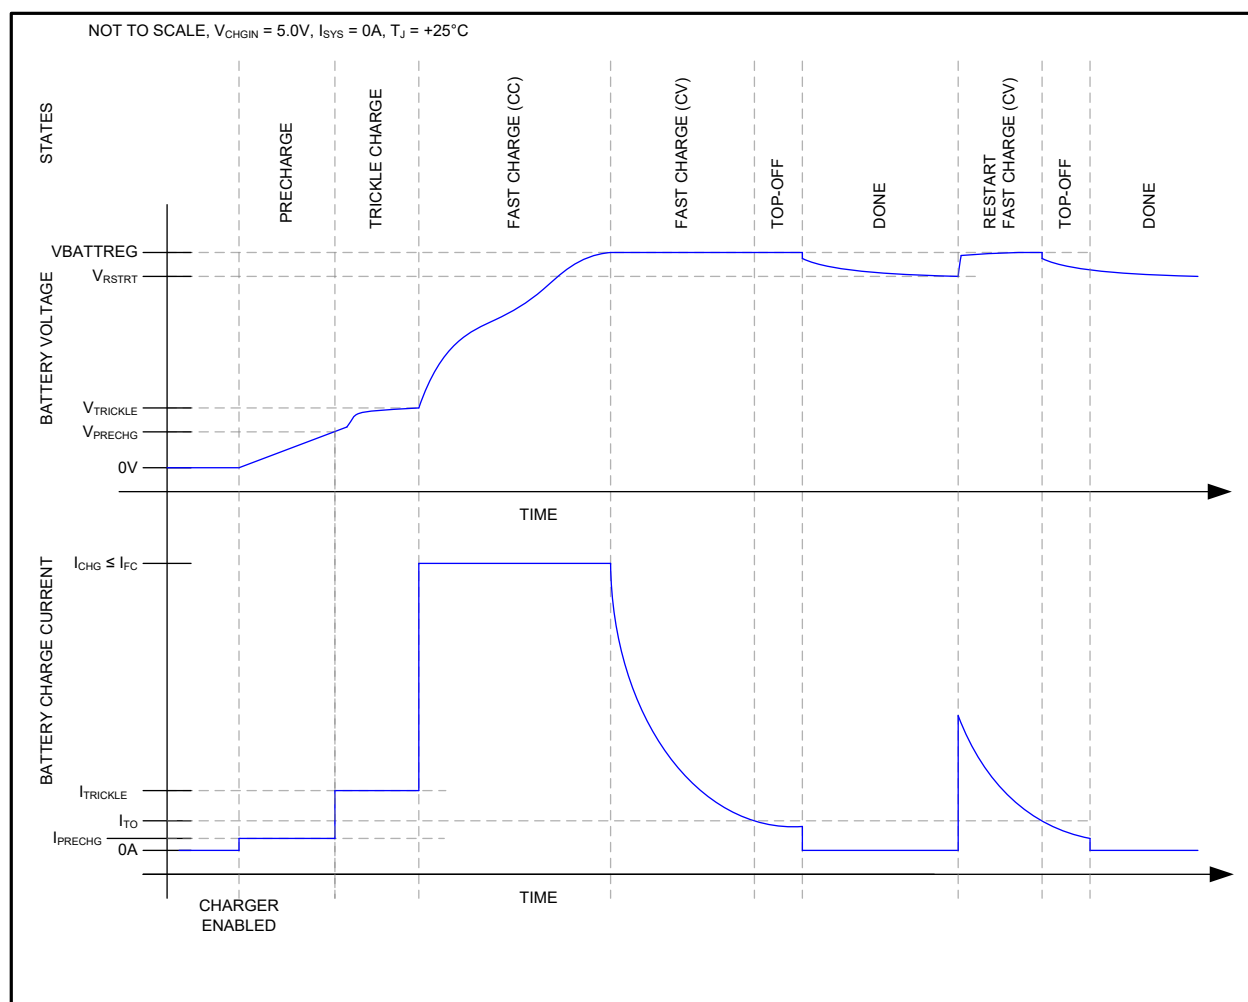
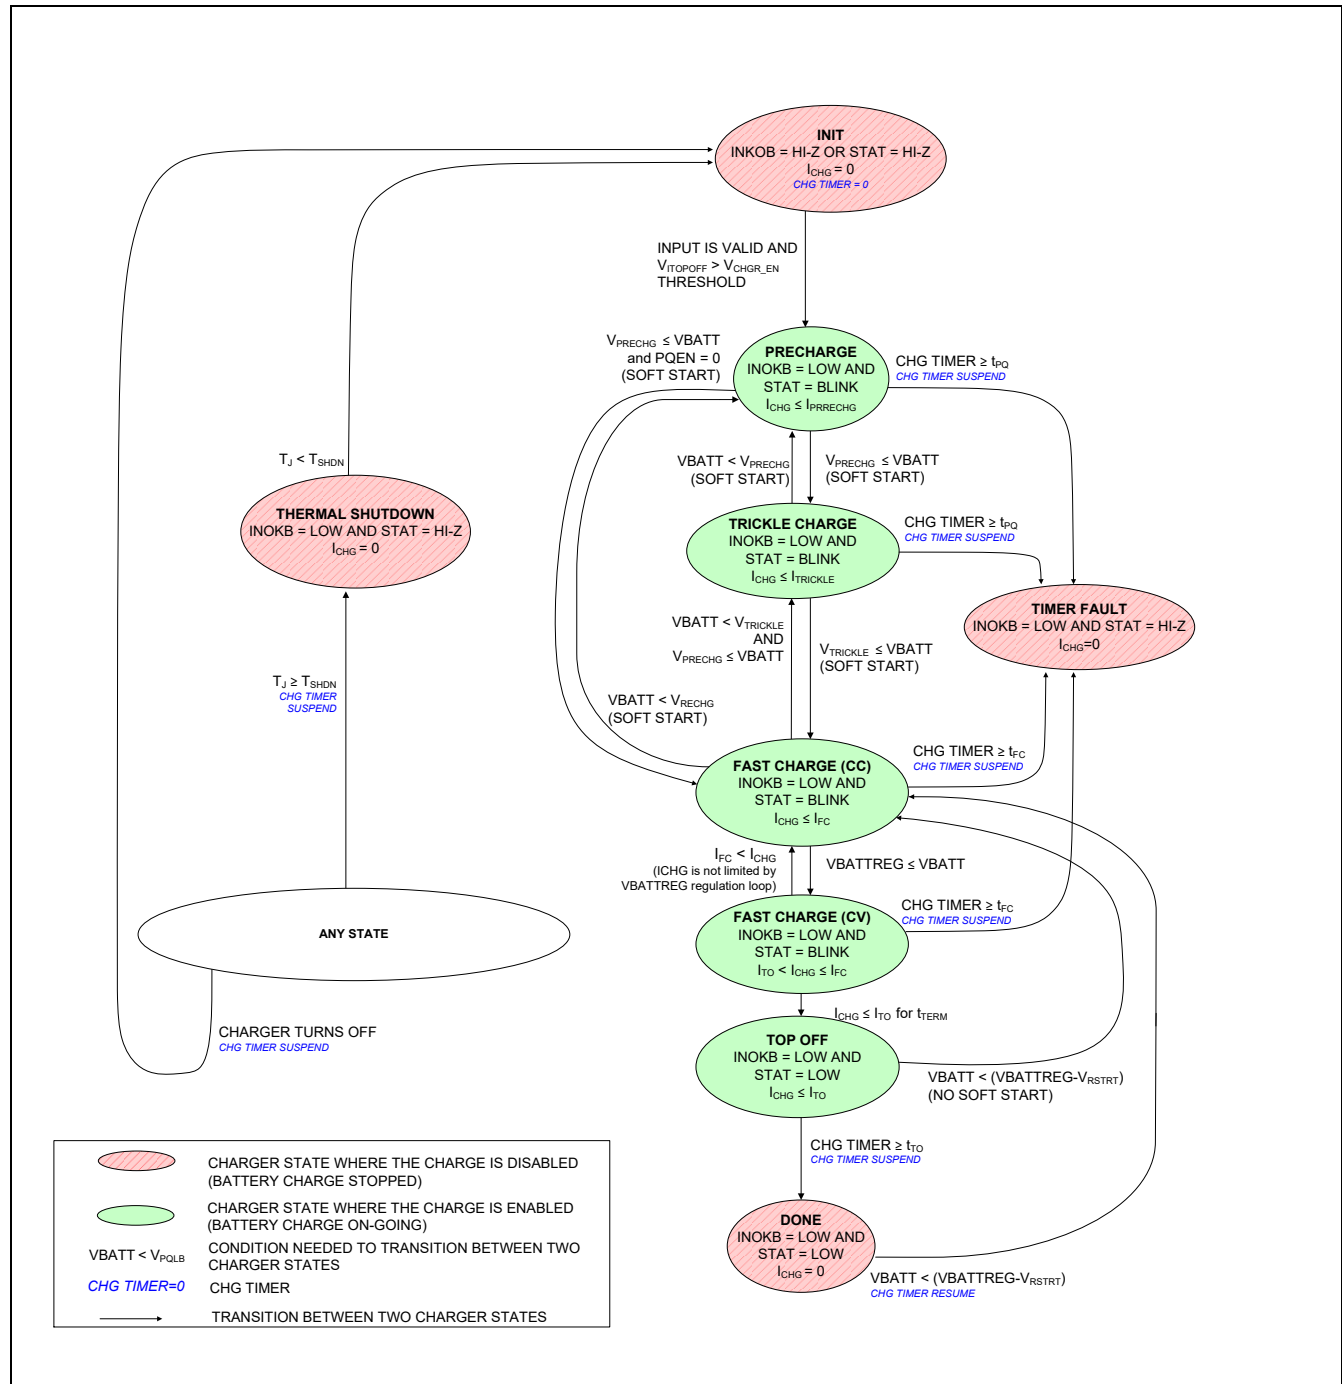

Figure 5. Li+/Li-Poly Charge Profile
Figure 6. Li+/Li-Poly Charger State Diagram
The MAX77787J utilizes several charging states to safely and quickly charge Li+/Li-Poly batteries as shown in Figure 5 and Figure 6. Figure 5 shows an exaggerated view of the Li+/Li-Poly battery progressing through the following charge states when there is no system load and the die and battery is close to room temperature: precharge $\rightarrow$ trickle $\rightarrow$ fast-charge $\rightarrow$ top-off $\rightarrow$ done.
From any state shown in Figure 6 except thermal shutdown, the “INIT” state is entered whenever the charger inputs CHGIN is invalid or the charger timer is suspended.
As shown in Figure 6, the pre-charge state occurs when the main battery voltage is less than V_{PRECHG} . In the pre-charge state, the charge current into the battery is I_{PRECHG} .
As shown in Figure 6, the trickle charge state occurs when $V_{BATT} > V_{PRECHG}$ and $V_{BATT} < V_{TRICKLE}$.
As shown in Figure 6, the fast-charge constant current (CC) state occurs when the main-battery voltage is greater than the trickle threshold and less than the battery regulation threshold ($V_{TRICKLE} < V_{BATT} < V_{BATTREG}$).
As shown in Figure 6, the fast-charge constant voltage (CV) state occurs when the battery voltage rises to $V_{BATTREG}$ from the fast-charge CC state.
In the fast-charge CV state, the battery charger maintains $V_{BATTREG}$ across the battery and the charge current is less than or equal to I_{FC} . As shown in Figure 5, charger current decreases exponentially in this state as the battery becomes fully charged.
As shown in Figure 6, the top-off state can only be entered from the fast-charge CV state when the charger current decreases below I_{TO} for t_{TERM} . In the top-off state, the battery charger tries to maintain $V_{BATTREG}$ across the battery, and typically the charge current is less than or equal to I_{TO} .
As shown in Figure 6, the battery charger enters its done state after the charger has been in the top-off state for t_{TO} .
The battery charger provides both a charge timer to ensure safe charging. As shown in Figure 6, the charge timer prevents the battery from charging indefinitely. The time that the charger is allowed to remain in each of its prequalification states is t_{PQ} . The time that the charger is allowed to remain in the fast-charge CC and CV states is t_{FC} . Finally, the time that the charger is in the top-off state is t_{TO} . Upon entering the timer fault state, STAT becomes Hi-Z.
In the timer fault state, the charger is off. The charger input can be removed and re-inserted to exit the timer fault state (see the “any state” bubble in the lower left of Figure 6).
As shown in Figure 6, the thermal shutdown state occurs when the battery charger is in any state and the junction temperature (T_J) exceeds the device’s thermal shutdown threshold (T_{SHDN}). When T_J is close to T_{REG} , the charger folds back the input current limit to 0A so that the charger and inputs are effectively off.